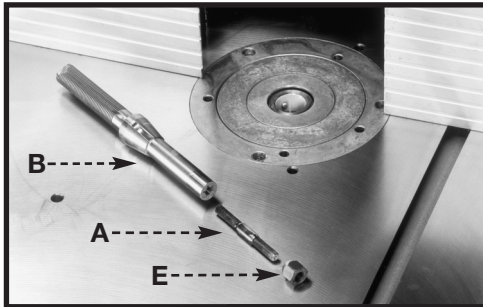

Fig. 10
1. Thread one end of the tie rod (A) Fig. 10 into the threaded hole in the bottom of the spindle (B).
3. Thread the nut (E) Figs. 10 and 13 on the bottom end of the tie rod (A).